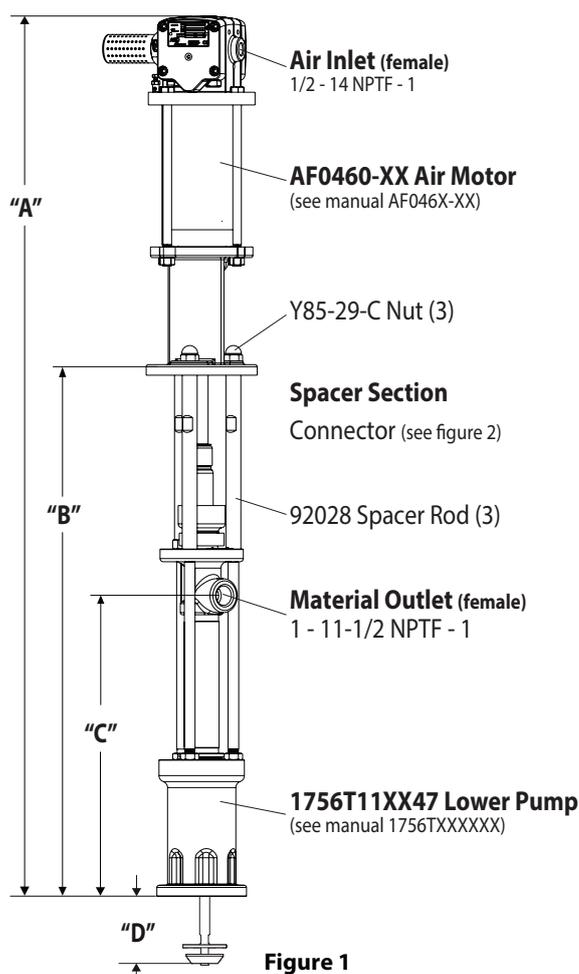

Figure 1
2. Remove the three (Y85-29-C) nuts from the three (92028) spacer rods (see figure 1).